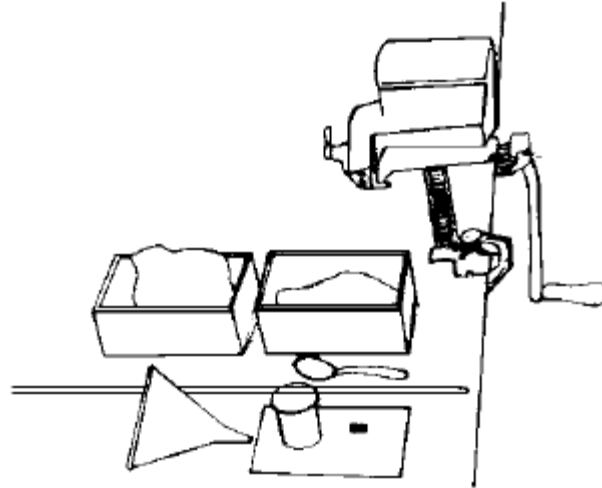

Figure 3.
c. PREPARATION. The Equiphase Cell should be placed on a laboratory bench in a cleared area affording the operator sufficient room to lift the cover off and place it down beside the cell. The following materials are required (See fig. 3).
- (1) Solid carbon dioxide (dry ice).
- (2) Alcohol such as methanol or ethanol.
- (3) Thawing rod (supplied).
- (4) Rubber insert for bottom of thermometer well (supplied).
- (5) Thermometer which will fit into well. Well dimensions: 10 mm ID (3/8"), 35 cm long (14").